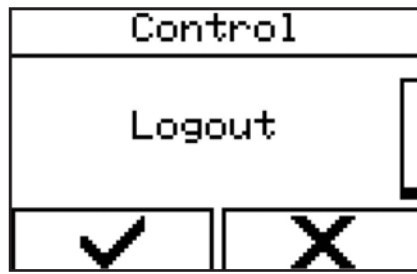

Figure 136 - Selecting a menu
1. Select the menu via 'Control' → 'Logout' (Figure 136).